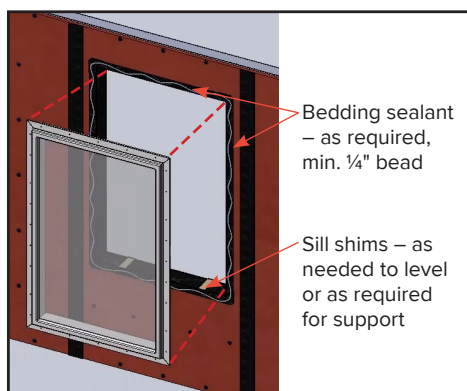

Figure 3. Apply sill shims and bedding sealant, set window into center of opening, and temporarily secure with flange fastener.
- Apply the window manufacturer's recommended bedding sealant (min. ¼" bead) to the rough opening perimeter approximately ½" to ¾" from the edge of the rough opening (see Figure 3). **DO NOT** apply bedding sealant to sill flange where sill pan flashing is used (see Step 2, Item c).
- Where sill shims are required by the manufacturer or where the sill is not level, shims may be placed and tacked into level position prior to setting the window unit. See Figure 3.
- With the window closed and in locked position, set into the center of the rough opening and fasten the center nail hole of the top flange to the rough opening with the manufacturer's recommended flange fastener, or initially secure as otherwise recommended by the manufacturer (See Figure 3). Verify that the required gap between the window head and header is present.